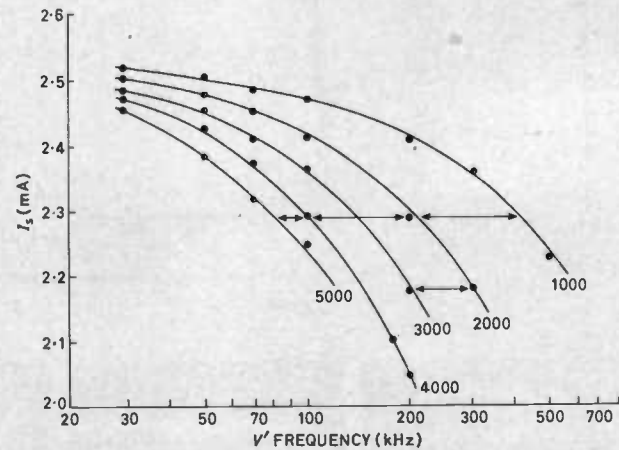
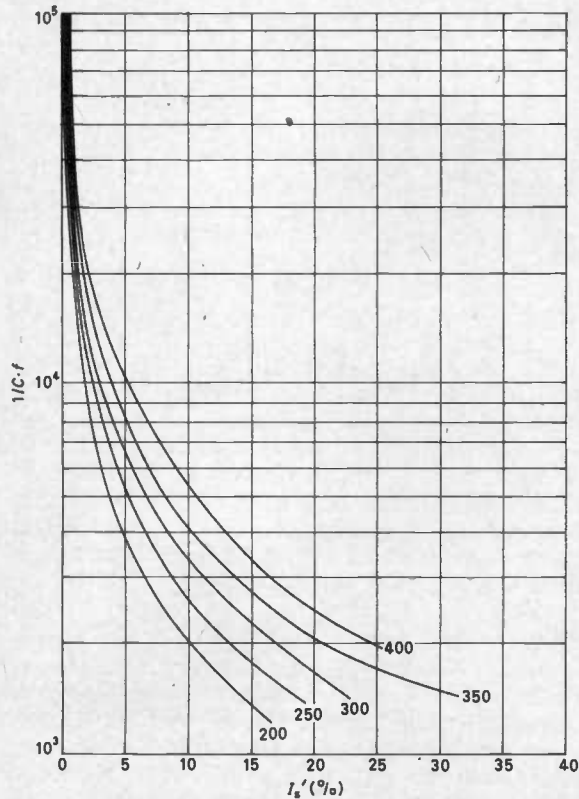

Fig. 14. Characteristic curve between drive frequency and I_s (parameter: C)
Fig. 15. Characteristic curve between deviation rate of I_s and drive frequency (parameter: V_{max})
in Fig. 14 with parameter of $C (= C_s + C'$ in pF). It is seen from the figure that the intervals between their curves are expressed by the ratios of the parameters (indicated by " \longleftrightarrow "), further it means that T in equation (11) is indeed the ratio of actual time to capacitance. Fig. 15 shows the observed relation between the frequency of V' (normalized to T) and the deviation rate $I_s' (= [(I_{s0} - I_s)/(I_{s0} - I_{min})] \times 100)$,
Fig. 18 shows some examples of experimental results, and corresponds to Fig. 14, where I_s is constant independently of dV'/dt for certain combinations of C_0, C_1 , and C_2 , (3). This demonstrates the correctness of the representation for the change of I_s and for its correction.